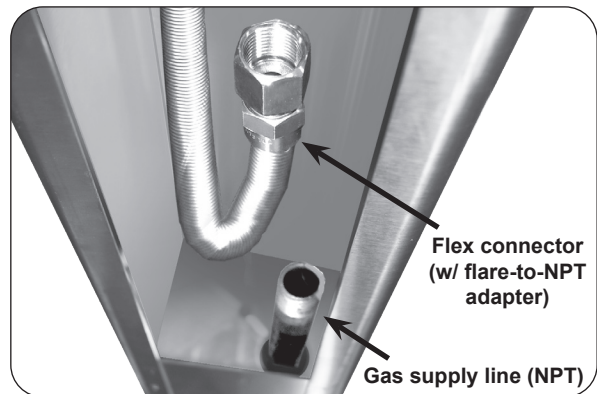

Fig. 18-2 Post interior overview detail
2. Verify that the gas supply line fits through the gas line clearance hole in the bottom of the post (see Fig. 18-2). The clearance hole is the larger of the two holes in the bottom of the post and is off center.